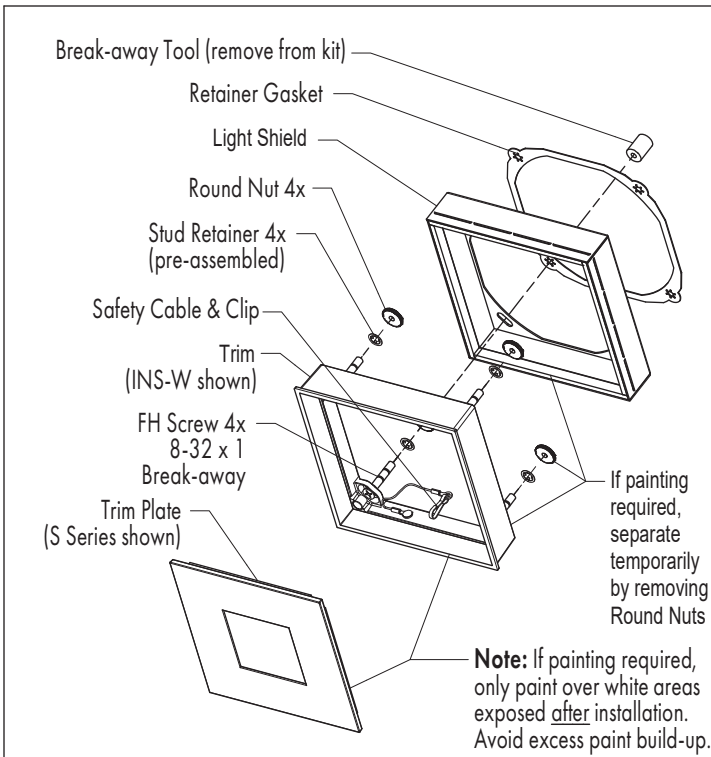

FIG 3.1 Trim Kit Assembly
STEP 3 If painting is required, temporarily separate Light Shield & Retainer Gasket from Trim Kit & paint Trim & Trim Plate (see note in FIG 3.1).
STEP 4 Before installing, rough adjust Trim Kit height to approximate ceiling-to-Housing depth. Use Screws & Round Nuts to set rough height of Trim-FIG 3.1 & 3.2.